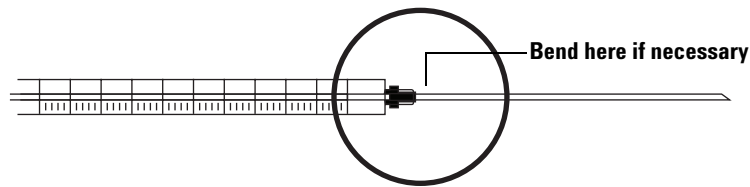

Figure 44 Inspecting the syringe
- 1 Roll the syringe on the edge of a clean flat surface. If the tip of the needle moves in a circle, straighten the shaft by bending it slightly near where it connects to the syringe barrel and check it again (Figure 44).